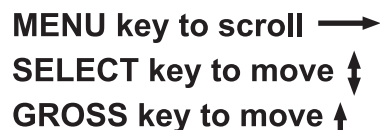

Figure 8
Figure 8 shows the Recipe menu. You can refer to this menu as you go through the process of creating recipes. The Model 1040 allows you to enter 100 recipes. You choose the ingredients for a recipe from the list of ingredients entered under *LIST* in the User menu. Once programmed, any recipe can be quickly recalled for batching operations. **Make sure you have the recipe entry mode set as you wish before beginning. See *Choose a Recipe Entry Mode*.**
1. Access the recipe you want to edit, see Figure 8, and use the **SELECT** and **MENU** key to view the ingredient you want changed. Press **SELECT**. . .
Access the recipe you want to edit, see Figure 8, and use the **MENU** and **SELECT** keys to display the ingredient name you want deleted. Press and hold **ZERO/CLEAR** for two beeps (2 sec) and release the key.
1. Access the recipe you want to edit, see Figure 8, and use the **MENU** and **SELECT** keys to display the ingredient name where you want to insert the new ingredient.
3. Use the keypad to enter in the ingredient number (X) of a valid ingredient from the LIST (1-100). . .